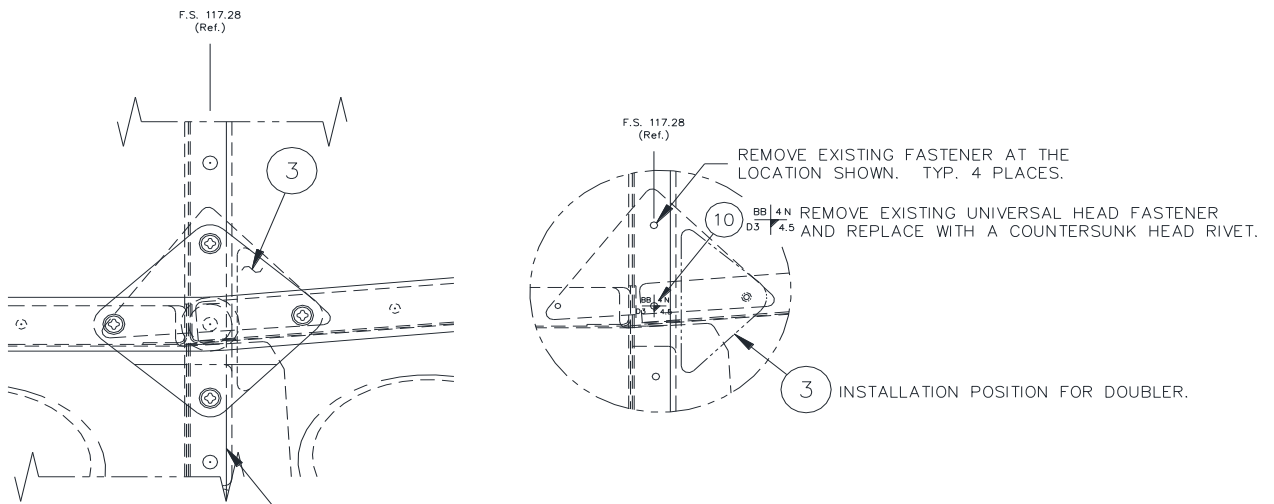

Figure 2b
- 1.5. Deburr the holes and install the handle using the hardware specified (items 4, 5 and 6). Ensure item 3, doubler is fitted under the middle attaching point (figure 2b).